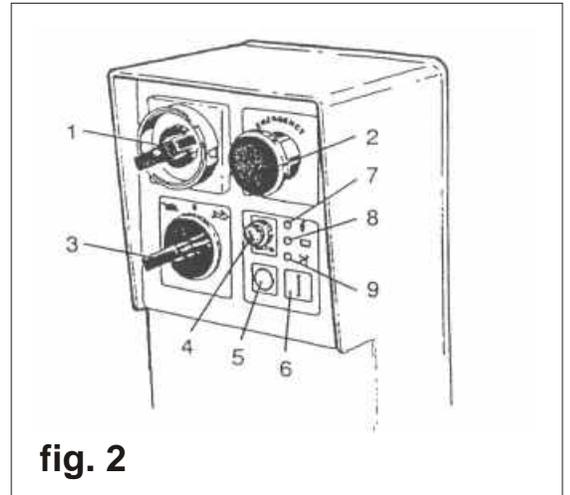

fig. 2
- Turn the main switch (1 - fig. 2) to the “on” position.
- Turn the cutting speed selector (3 - fig. 2) to the left (slow speed).
- Press the pushbutton (6 - fig. 2), the warning light (7) will be lighted to confirm that the machine is live.
During the continuous use of the sawing machine on thick pieces, the machine could stop suddenly due to the operation of the safety device of the electric motor. In this case, let the machine “rest for a few minutes, i.e. until the temperature in the electric motor is lowered to the operating values, automatically restoring the electrical feeding. Operate the pushbutton (6 - fig. 2).